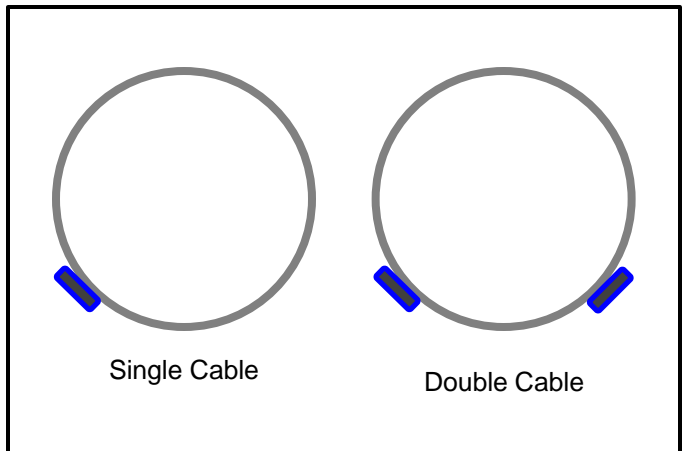

Figure 1: Cable Placement on Pipe
Use table 1 to select the heating cable size for insulated **metal** pipes and use table 2 to select heating cables for insulated **plastic** pipes. Read across the table to find the pipe size, then drop down the column to the row corresponding to the lowest design air temperature column for the application and chose the thickness of the insulation that will be used. The cell that intersects will give the power (watts/ft.) of the cable required and it may also have a number (2) in the cell which represents using 2 cables. Run the cable straight along the bottom of the pipe. If two cables are required, attach them at the 4 and 8 o'clock positions as shown in figure 1 page 4. Spiral tracing the cable is not recommended as it is labor intensive.
2. For straight tracing, install the heating cable on a the lower half of the pipe; for example, in the 4 o'clock or 8 o'clock position as shown in Figure 1.